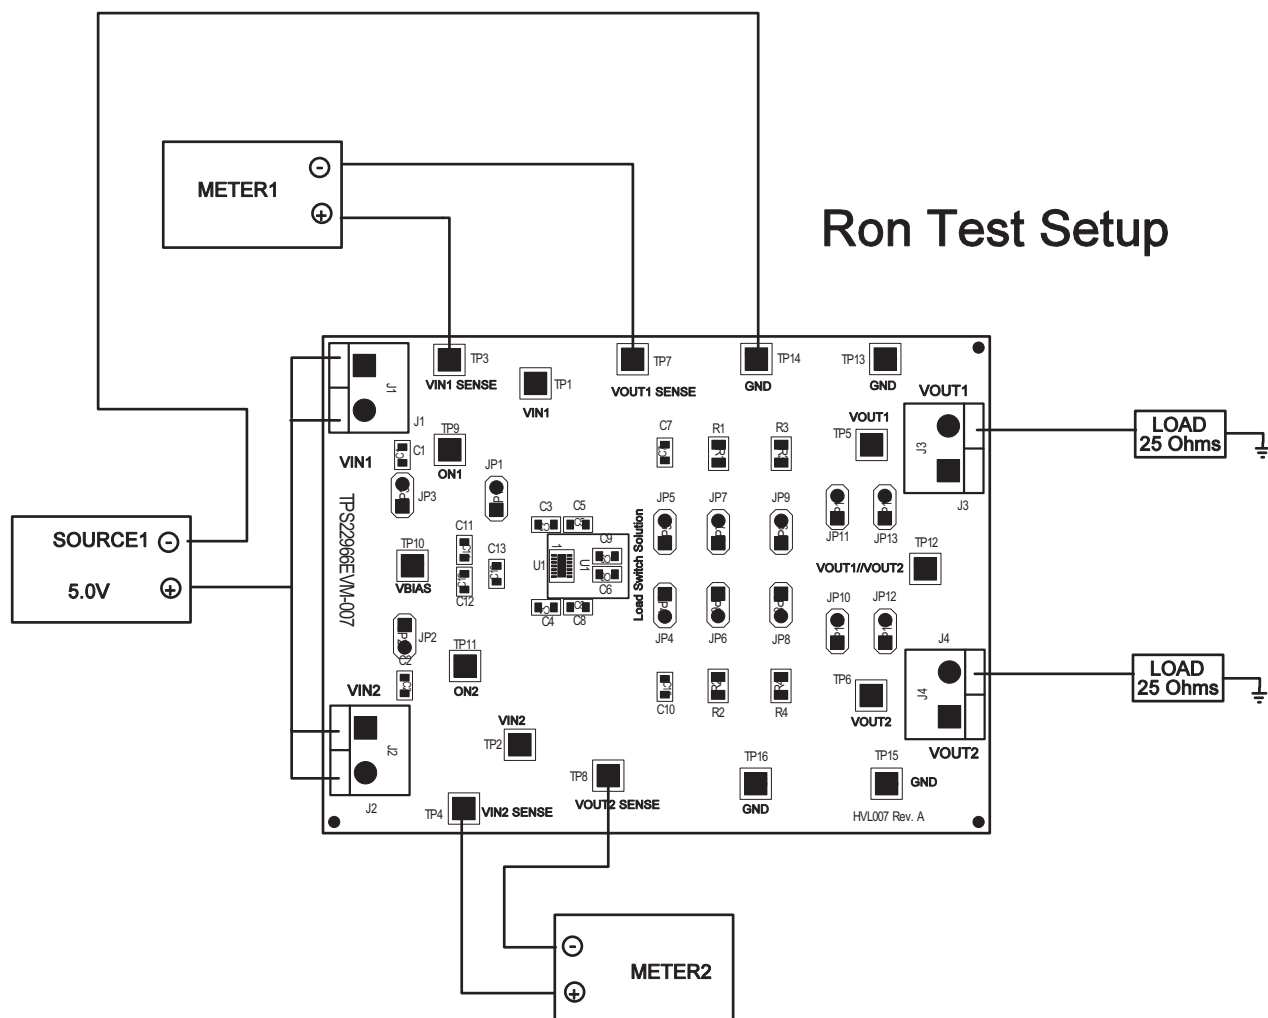

Figure 5. TPS22966EVM-007 Recommended Ron Test Set Up
Figure 5 shows a typical setup for the R_{ON} test of the EVM. VBIAS voltage must be present for the device to function, keep this voltage level constant between 2.5V-5.25V. Adding a shunt across JP1 will connect the VBIAS pin to VIN1. When testing with VIN1 below 2.5V JP1 shunt must be removed and VBIAS tied to another voltage source. It is recommended to keep VBIAS voltage level at 5V. Datasheet specifications were taken with VBIAS = 5V.
1. Setup the EVM per Figure 5.